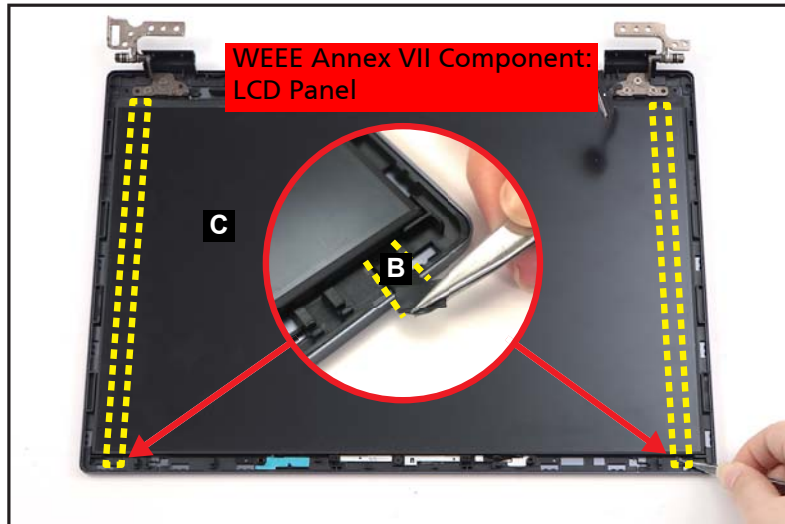

Figure 1-57. LCD Panel Removal
2. Pry slightly to access the double-sided mounting tape (B) underneath the LCD panel (C). Then pull to detach the double-sided mounting tape from the LCD cover. Repeat the same procedure to remove the double-sided mounting tape on another side of the LCD panel (Figure 1-57).